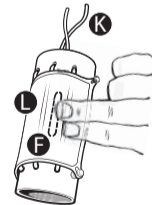

Fig. 8 - Palpitate Insertion Site
3. With the fingers of one hand, locate and palpate the simulated “intercostal space” between 2nd and 3rd ribs (i.e., slot **F** at the center of skin patch **L** between the pair of NON-RED veins **K**) (Fig. 8).